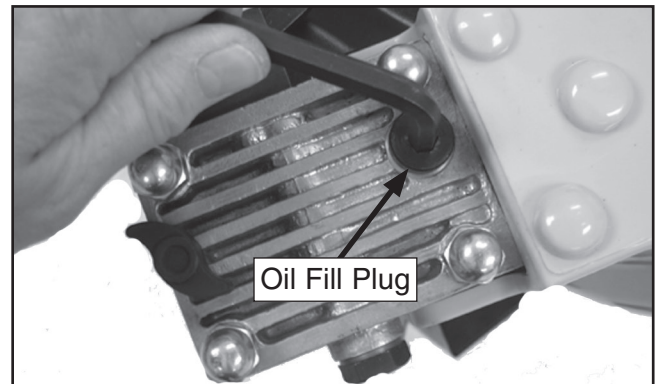

Figure 9. Removing the oil fill plug.
2. Use a hex wrench to remove the fill plug/dipstick, as shown in **Figure 9**.